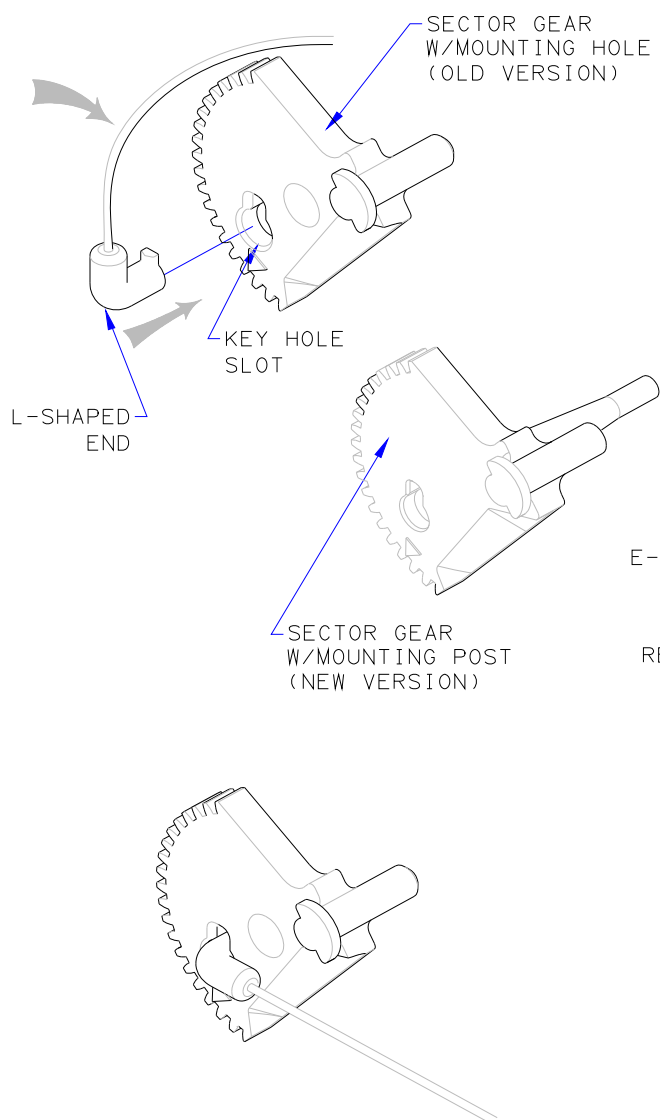

FIGURE 12
10. SELECT APPROPRIATE SECTOR GEAR, ONE THAT PIVOTS ON POST OF TILT (OLDER VERSION) OR ONE WITH INTEGRAL PIVOTING POST THAT INSERTS IN TILT (NEWER VERSION). INSERT L-SHAPED END OF REPLACEMENT TILT LIMITER CABLE INTO KEYHOLE SLOT IN REPLACEMENT GEAR. SEE FIGURE 12.